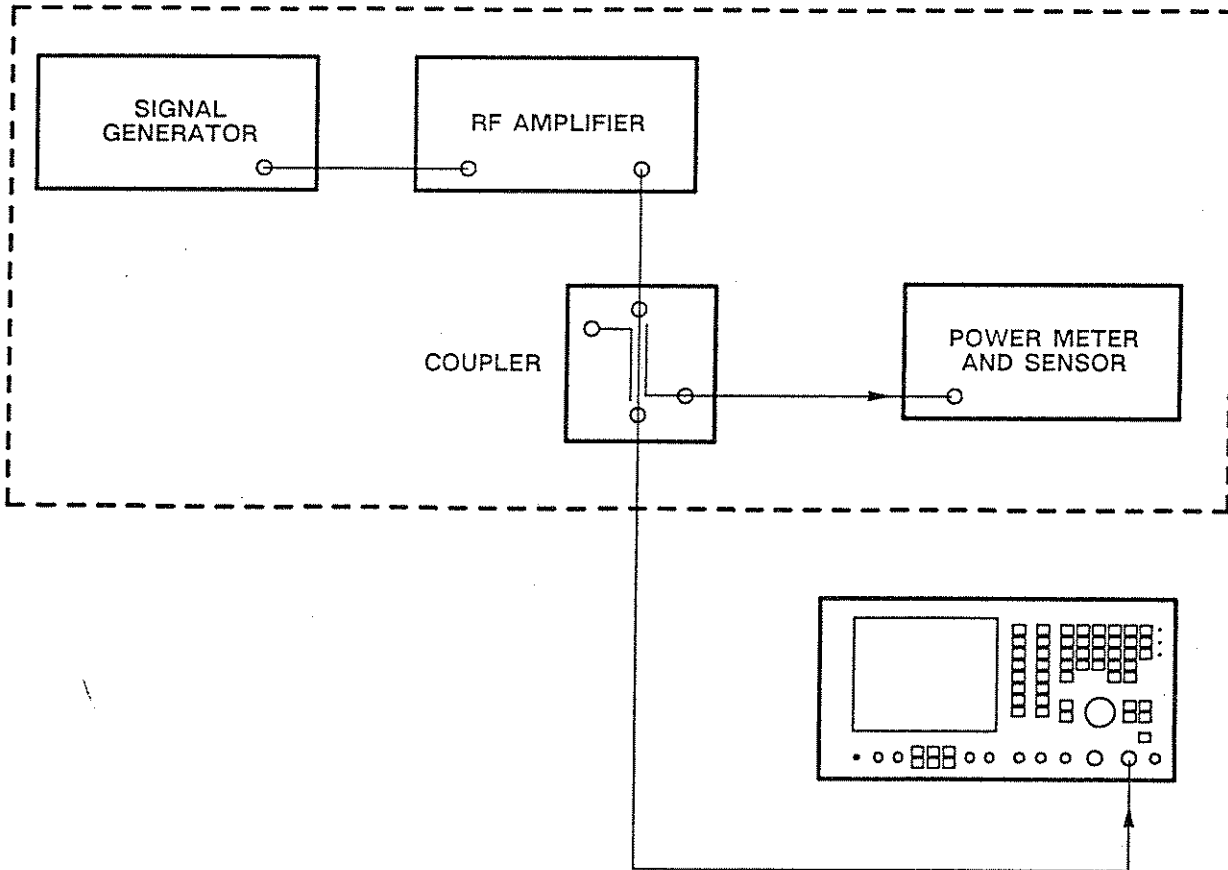

Fig. 6-19 Test equipment connections for RF power meter level and frequency response
- (1) Connect the signal generator through the RF amplifier to the high frequency coupler. Connect the power meter through its sensor to the coupler. Connect the coupler output to the RF IN/OUT N socket. See Fig. 6-19.
- (2) On the 2955B, set the MODE to TRANSMITTER TEST and RF IN/OUT socket to N.
- (3) On the signal generator, set the frequency to 100 MHz and the level so that the reading on the power meter is 2 W.
- (4) Check that the TX POWER reading is the same as the power meter reading $\pm 10\%$ ± 1 digit.
- (5) On the signal generator, set the level so that the reading on the power meter is 220 mW.
- (6) Check that the TX POWER reading is the same as the power meter reading $\pm 10\%$ ± 1 digit.